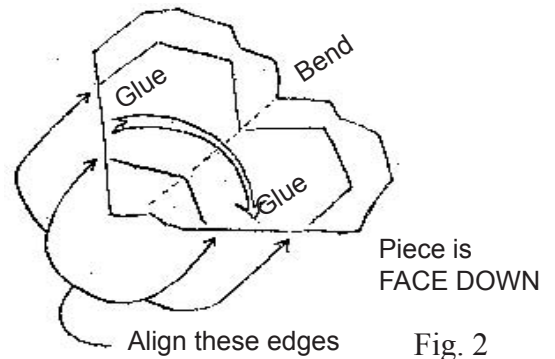

Fig. 3
- Finish cutting it out closely. (fig.3)